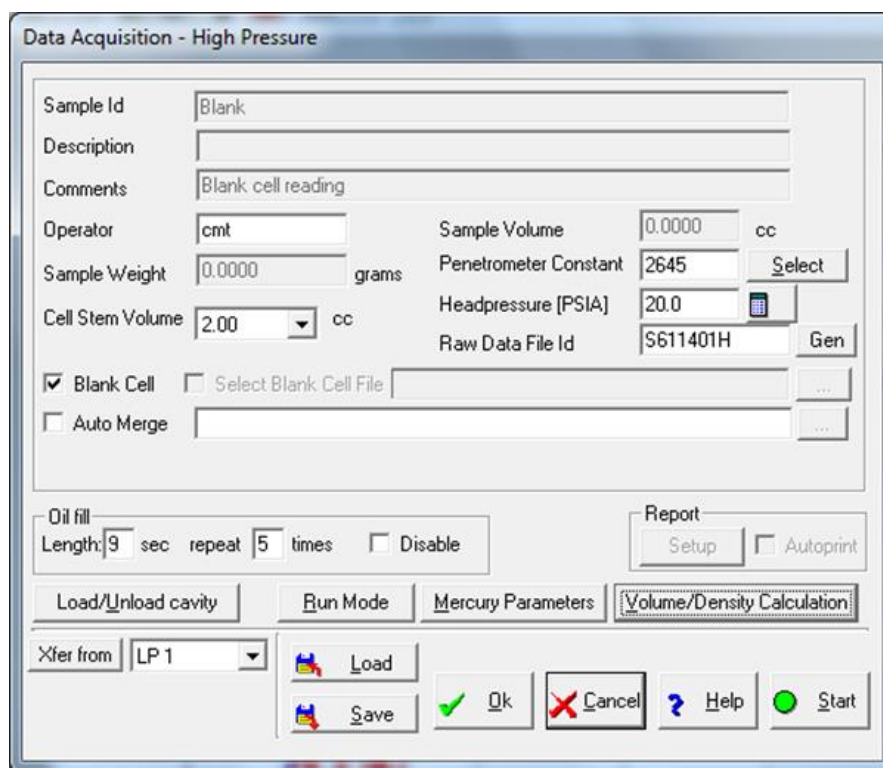

Figure 28. High pressure data acquisition dialog box
- Populating this dialog box (Figure 28) is best accomplished by clicking the “**Xfer from**” tab in the bottom left. Data can be transferred from either of the low pressure stations.